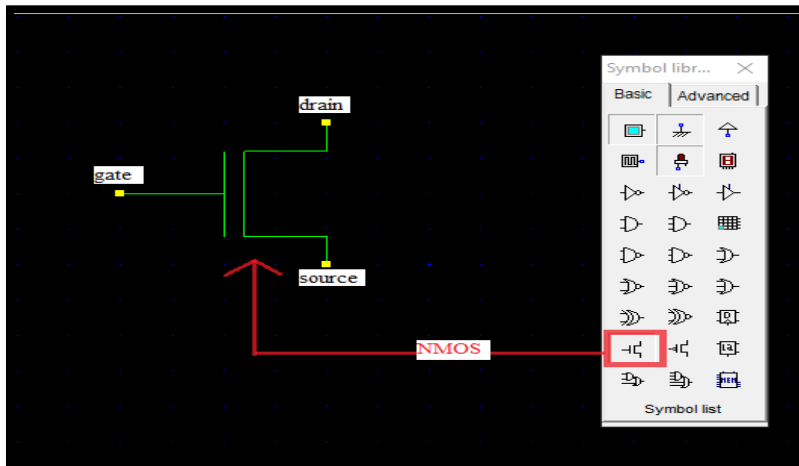

Figure 18: NMOS transistor symbol
- Instantiate 2 NMOS and 2 PMOS transistors. Then, connect the drains and sources of transistors (Press on the node and then drag) as figure 18.